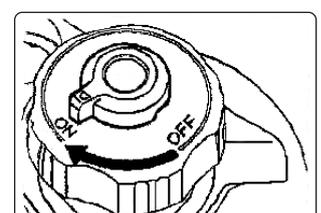

fig.6
6.3.2. Turn the air vent knob to "ON" fig.6.